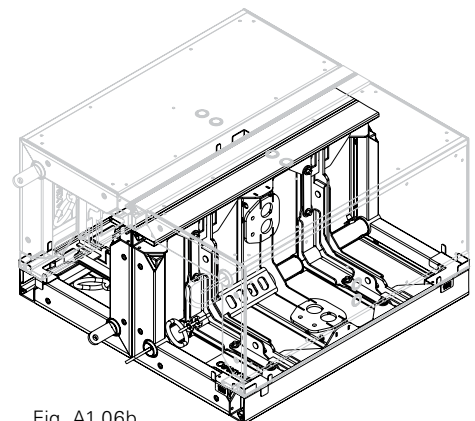

Fig. A1.06b
install Stacking Aids MX Flat (7) only on the corners at the bottom. (Fig. A1.06b + A1.06c)